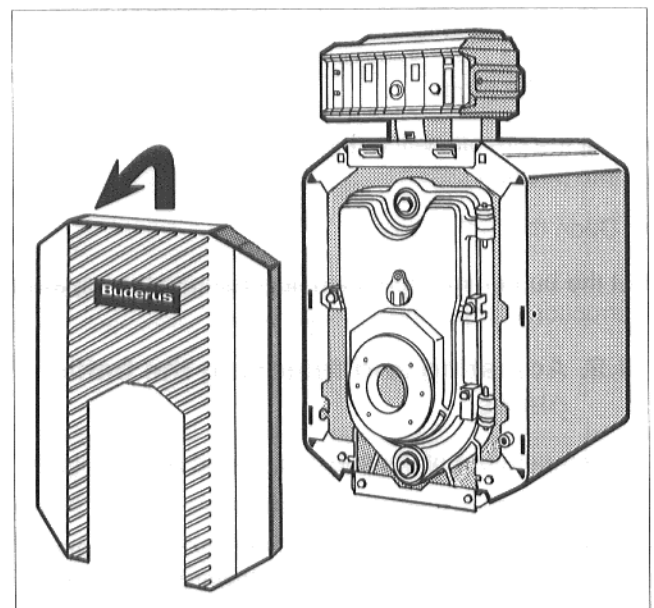

Fig. 26
- Lift the burner door cover slightly and remove towards the front (Fig. 26).